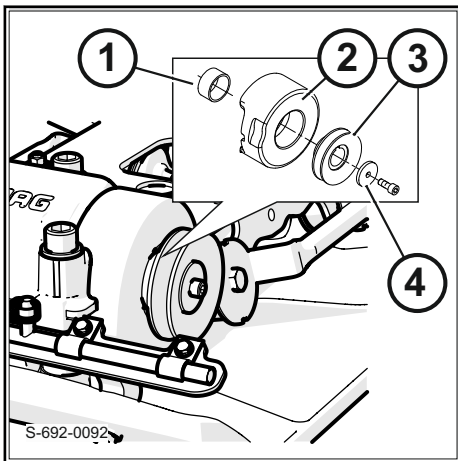

Fig. 92
7. Install the bushing (1) ↪ Fig. 92, the sealing (2), the V-belt pulley (3) and the washer (4).